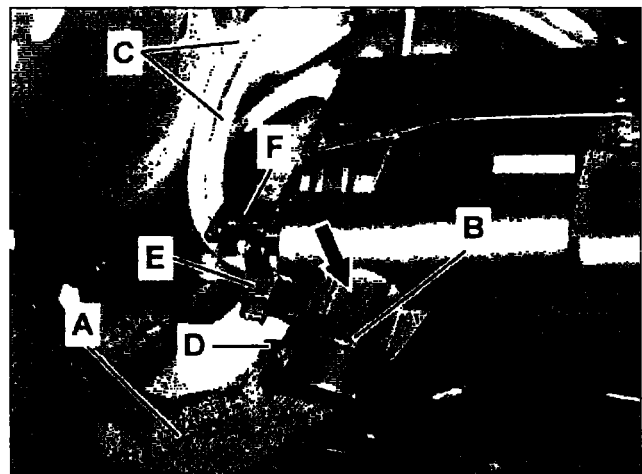

Figure 13
13. Secure SBC wiring harness (A, Figure 13) (excluding ground wires) to the SBC connector cover harness receptacle (arrow) using a new cable tie (B).
14. Secure ground wiring harness (C, Figure 13) to the SBC connector housing receptacle (F) using a new cable tie (E).